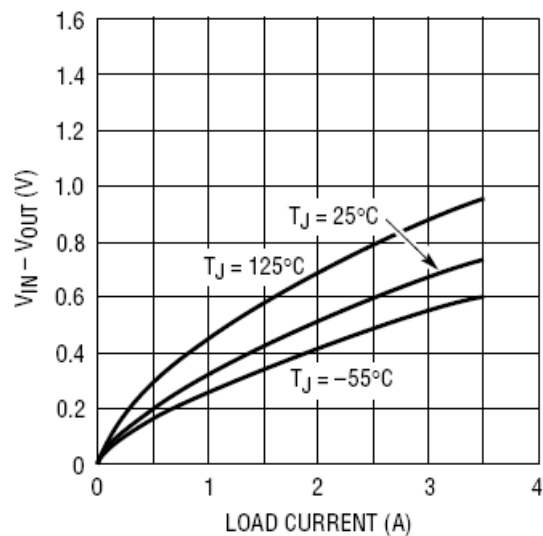

FIGURE 4 – RH1185 DROPOUT VOLTAGE TYPICAL CURVE
- Dropout voltage is tested by reducing input voltage until the output drops 1% below its nominal value. Tests are done at 0.5A and 3A. The power transistor looks basically like a pure resistance in this range so that minimum differential at any intermediate current can be calculated by interpolation; $V_{DROPOUT} = 0.25\text{V} + (0.25\Omega \times I_{OUT})$. For load current less than 0.5A, see Figure 4.